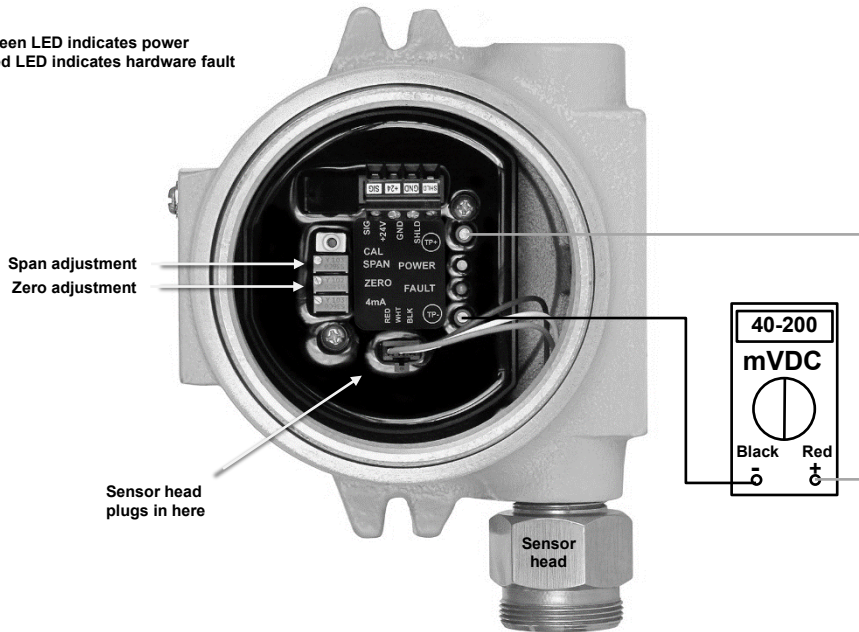

Figure 3: Sensor board components and zero/span adjustments
The GG-NH₃-2%-EXP sensor comes factory calibrated and should require only minimal adjustments after installation. Calibration should be performed six months after installation. There are two potentiometers on the preamp that are used for calibration (see **Figure 3**).
- Adjust the zero pot until the sensor outputs 40 mV from Test [-] to Test [+] (see **Figure 3**).
- Once the output signal has peaked (or 2 minutes maximum) adjust the span pot until the correct output is achieved (200 mV) (see **Figure 3**).